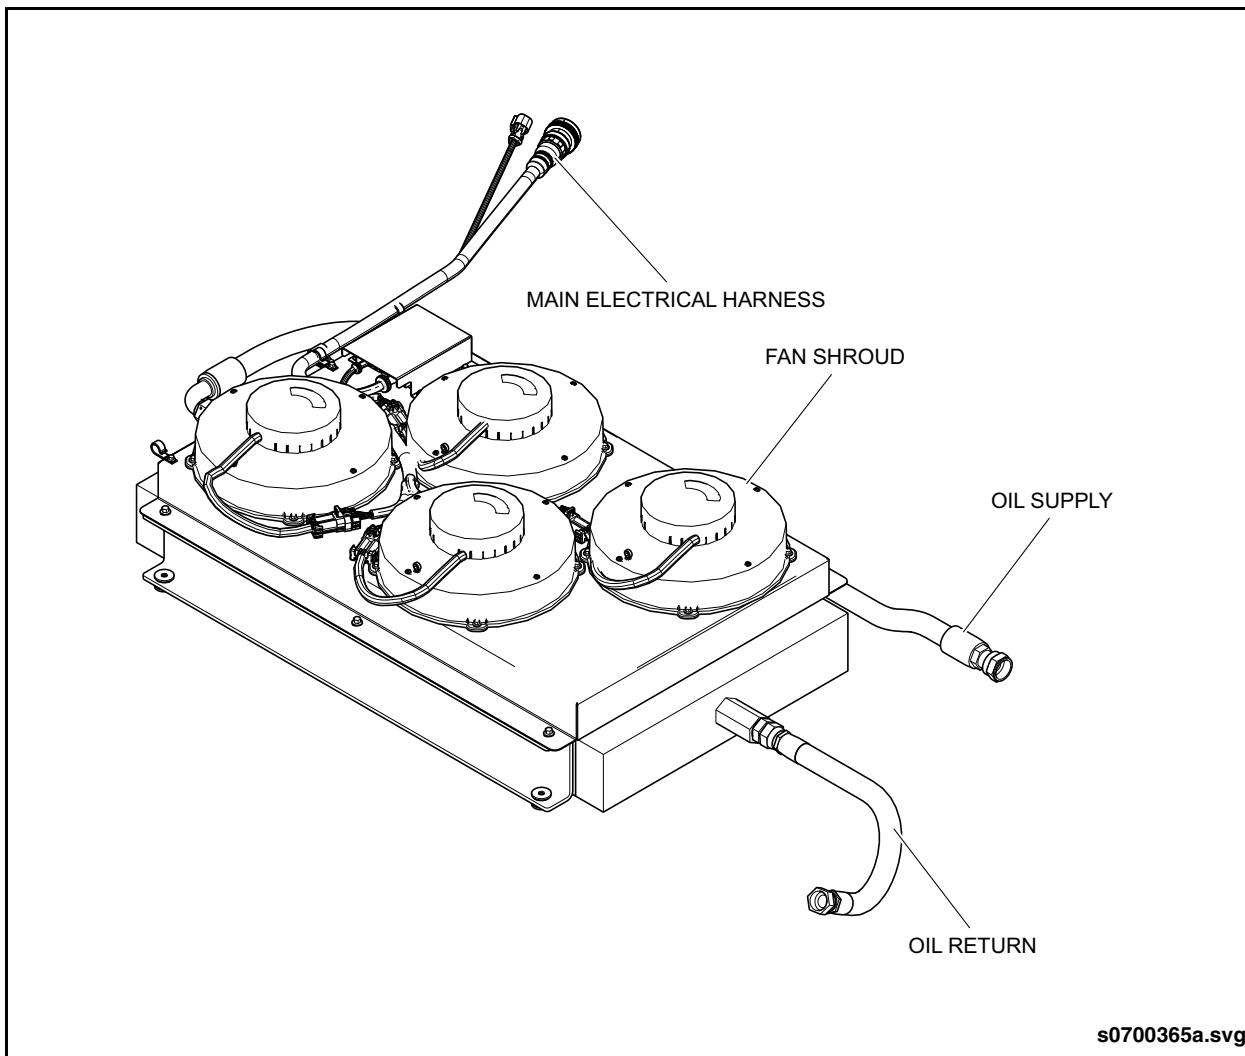

Fig. PM-31: Hybrid Oil Cooler Inspection
2. Clean any debris from the fan shrouds and ensure airflow is unrestricted. See "Fig. PM-31: Hybrid Oil Cooler Inspection" on page 66.